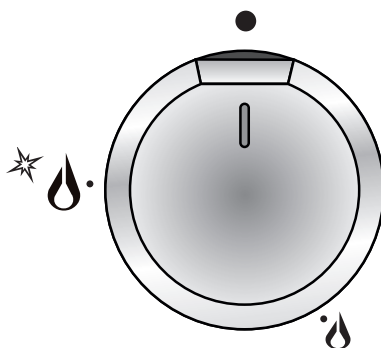

Fig. 2.1
Gas flow to the burners is adjusted by turning the knobs (illustrated in fig. 2.1) which control the safety valves.
- 1. Press in the corresponding knob and turn counter-clockwise (fig. 2.2) to the full flame position marked by the  symbol (fig. 2.1); hold the knob in until the flame has been lit.